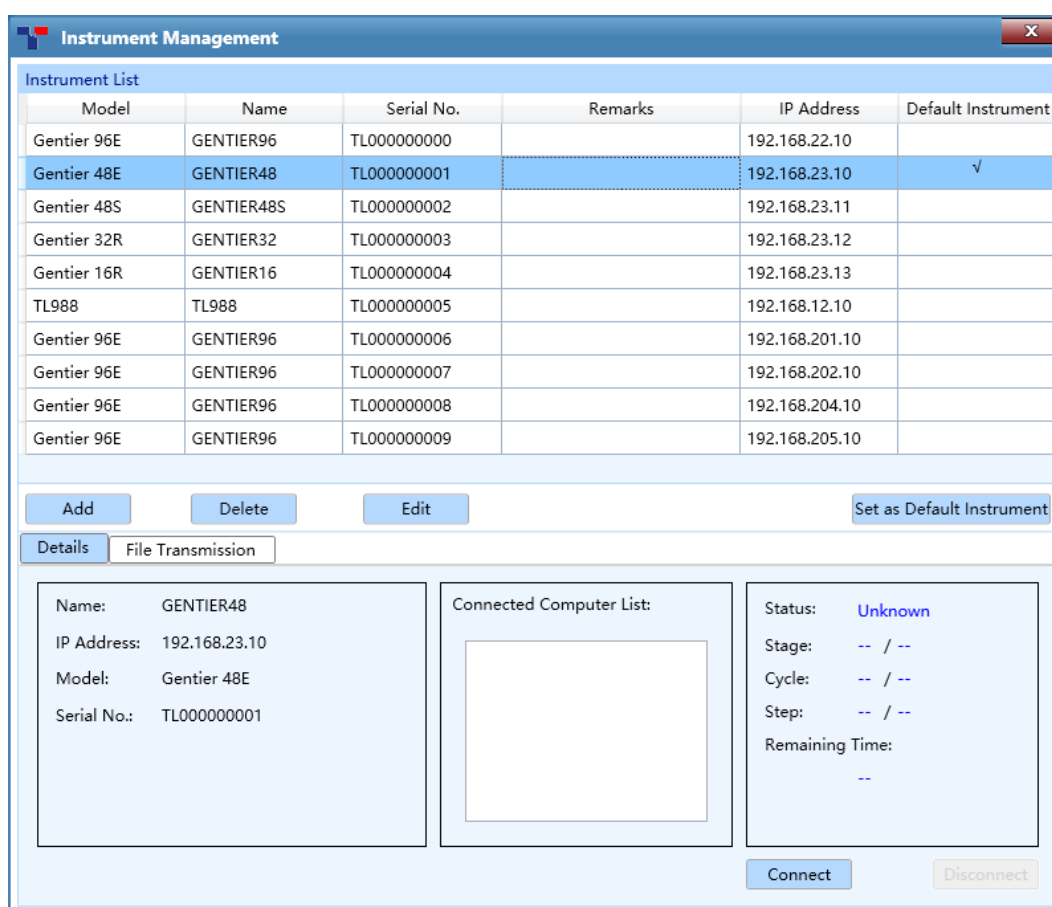

Figure D-3.2 Tool submenu - Instrument Management interface
1. **Instrument Management:** Click **Instrument Management** option in **Tool** submenu and the application software will automatically pop up the instrument management interface, which consists of these parts: **Instrument List**, **Details** tab and **File Transmission** tab, as shown in figure D-3.2. User can manage all instruments within the LAN on this interface.